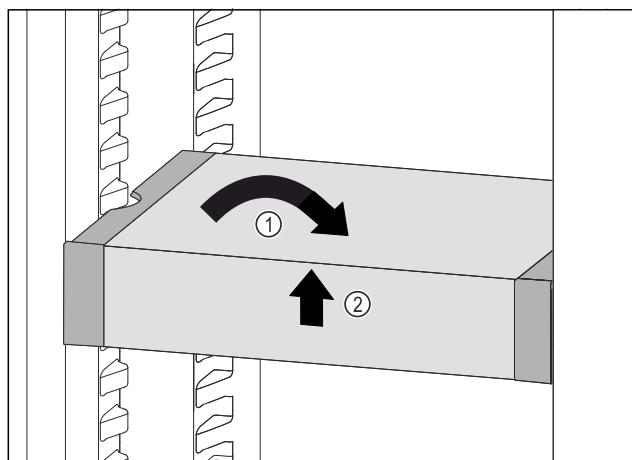

Fig. 81
- ▶ Set VarioSafe straight. Fig. 81 (1)
► Lift VarioSafe at the front. *Fig. 81 (2)*